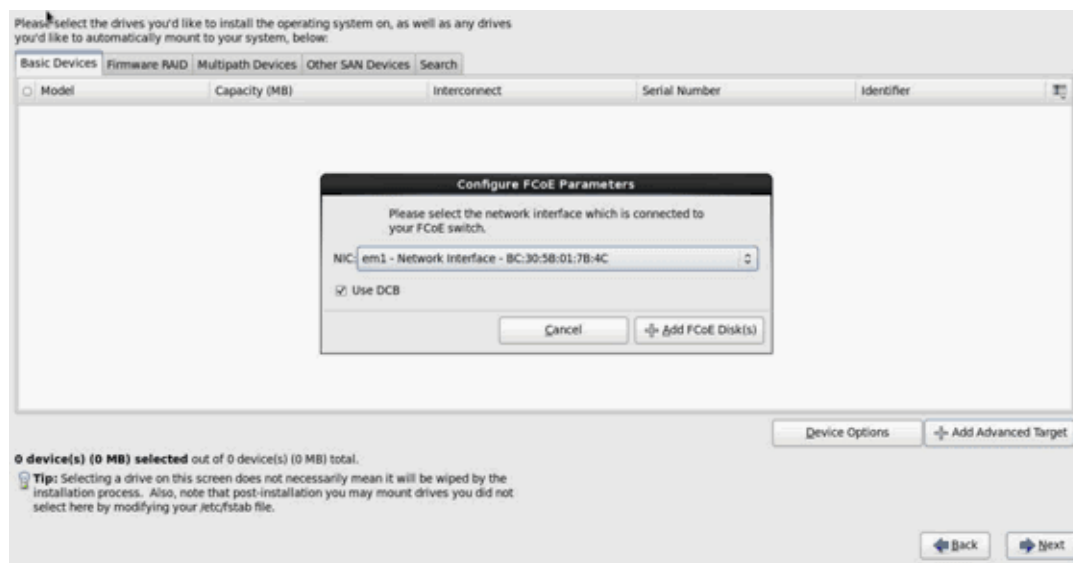

Figure 13-24. Configuring FCoE Parameters
7. For each interface intended for FCoE boot, select the interface, clear the **Use DCB** check box, select **Use auto vlan**, and then click **Add FCoE Disk(s)** (Figure 13-24).